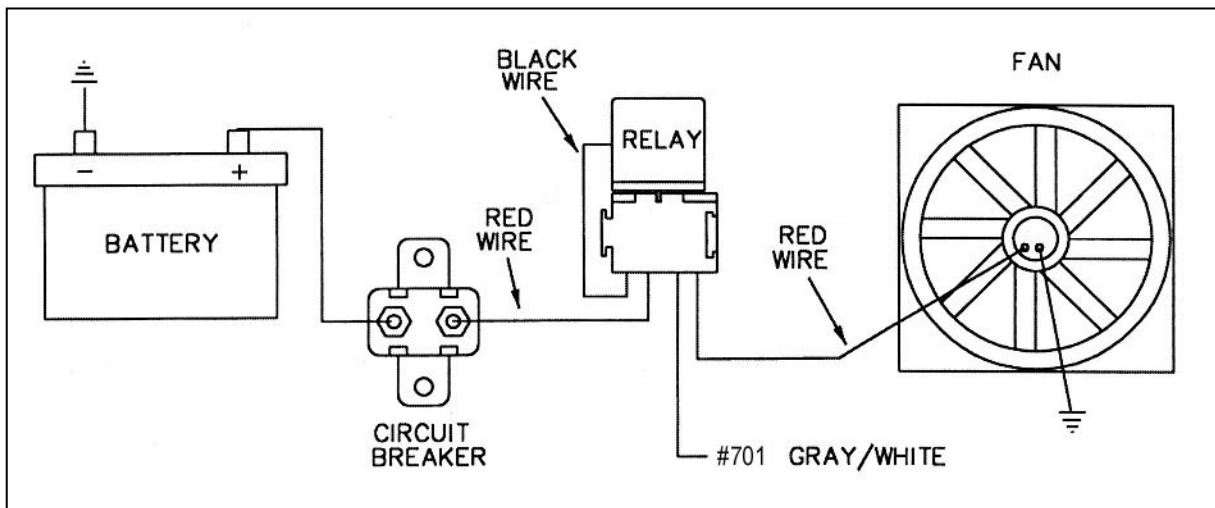

Figure 7.7 Painless Fan Relay Kit (Part #30101)
- 7.6.4 Connect HEADLIGHT SECTION A wire #701 (gry/wht) to the Electric Fan Relay. This wire is an activation wire for the relay, **NOT A POWER FEED.** The other end of wire #701 is in the ACCESSORY SECTION SWITCHES and should be connected to the electric fan switch in the dash. **Figure 7.7** shows a typical fan relay installation.